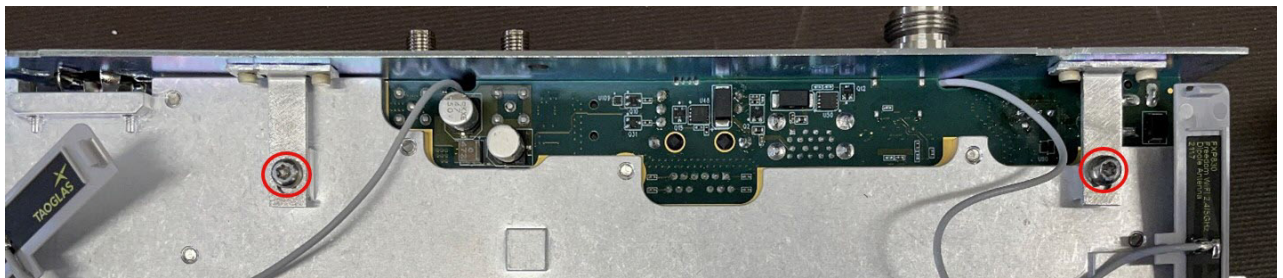

Figure 5-15. SPA PCB Removal
2. Remove the two Torx screws using T10 Torx driver from the brackets on the Main PCB. See Figure 5-15.